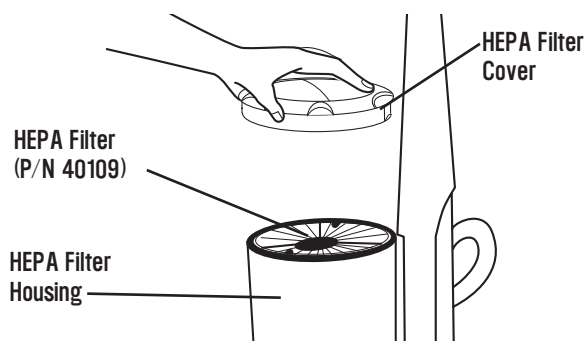

Figure 16
5. Use the center knob in the top of the HEPA Filter to pull the HEPA Filter out of the Filter Housing. (See Figure 16.)